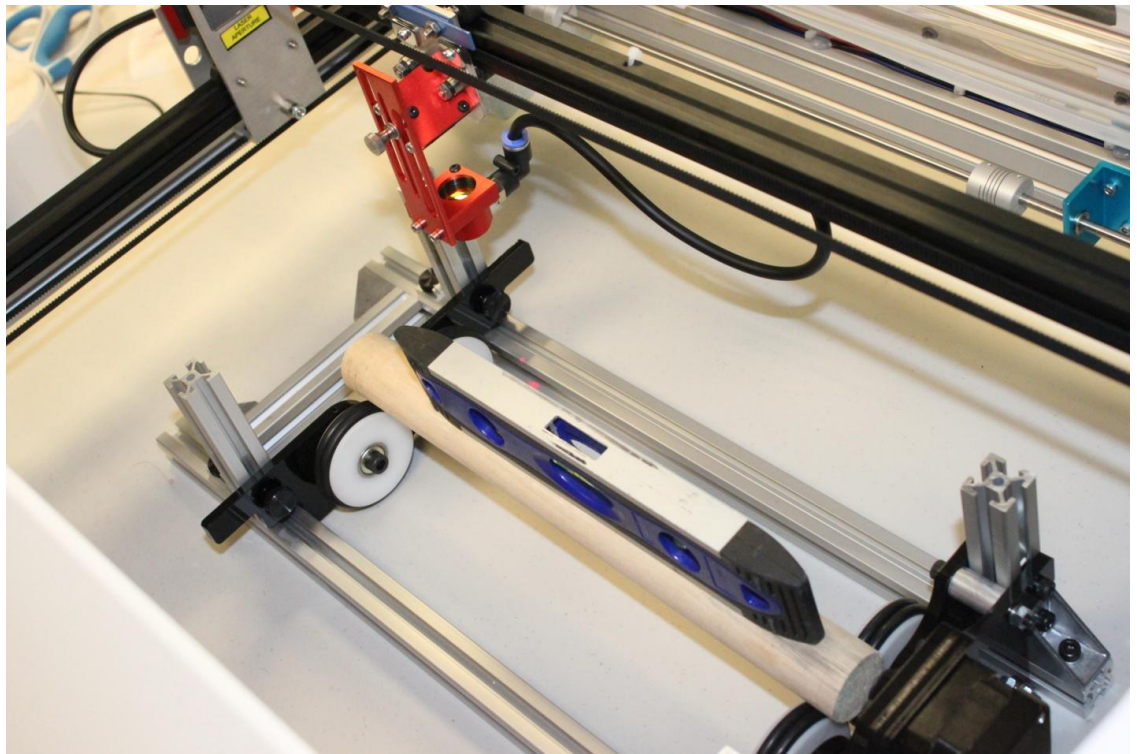

Figure 50 - Rotary Visual Alignment Step 1
1. Focus the laser head onto the rear frame member of the rotary attachment on the far left (Figure 50).